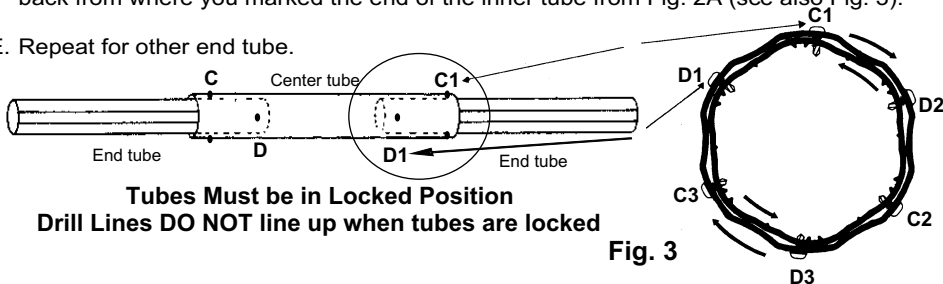

Fig. 3
B. Lock tubes together by rotating the center tube in the opposite direction to end tube. HOLD TUBES LOCKED WHILE YOU INSTALL FIRST SELF-DRILLING SCREW ON A DRILL LINE, 1" (2.5 cm) back from end of center tube at Location "C1" (see Fig. 3 & 4).
C. Place 2 more self-drilling screws at Location "C2" & "C3" - 1 screw at every second drill line around tubes (see Fig. 3).
D. At "D" locations install 3 screws around the center tube at every second drill line, 1" (2.5 cm) back from where you marked the end of the inner tube from Fig. 2A (see also Fig. 3).